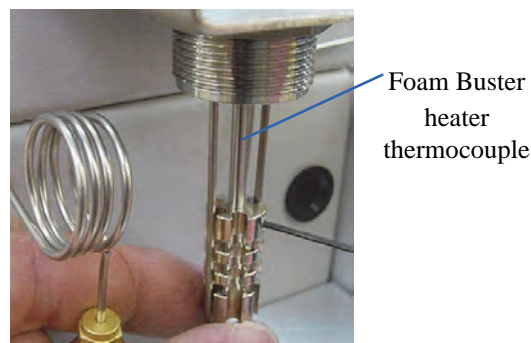

Figure 8.14. Installing the Foam Buster piece
- Insert the Foam Buster piece onto the Foam Buster heater/thermocouple with the set screw at the top. Position the Foam Buster piece with the sample needle and the sample thermocouple in the slots of the Foam Buster piece (Figure 8.14).